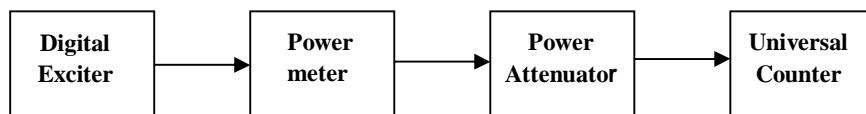

Figure 2
- a. Connect the test instrument to exciter according to Figure 2;